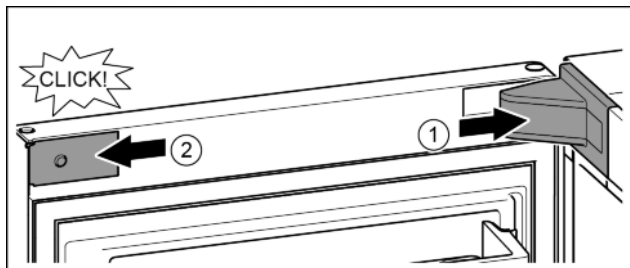

Fig. 18
- ▶ Put the mounting block cover on and click into place. If necessary push apart carefully. Fig. 18 (1)
- ▶ Position the cover plate on the side and click into place. Fig. 18 (2)